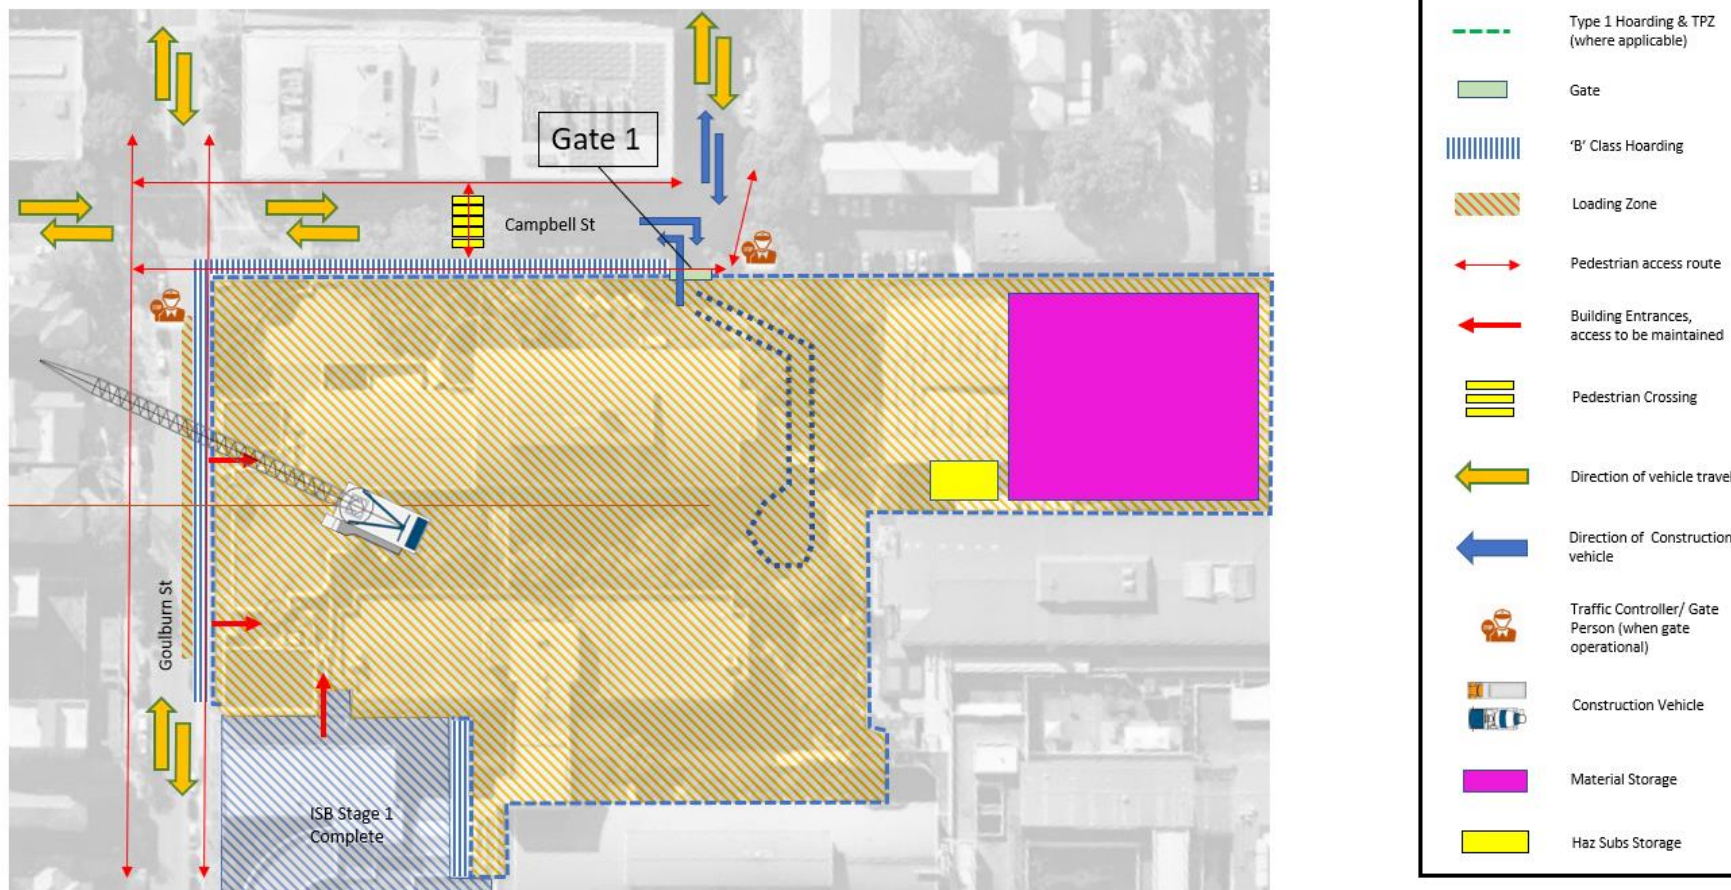

FIGURE 2: CONSTRUCTION LOADING ZONE
- Providing parking for construction staff at Collimore Park, via a 5 minute bus ride (Figure 2);